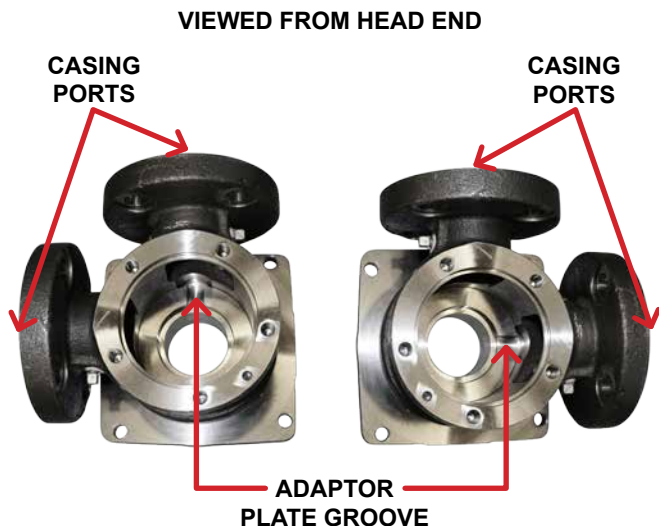

FIGURE 11
2. Position the adaptor plate so the adaptor plate groove aligns with groove in the casing bore, see **Figure 11** on page 8. Carefully slide the adaptor plate into the bracket side of the casing. Use care to prevent cutting the O-ring with the edge of the adaptor plate or casing. Secure into position by tightening the eight capscrews.